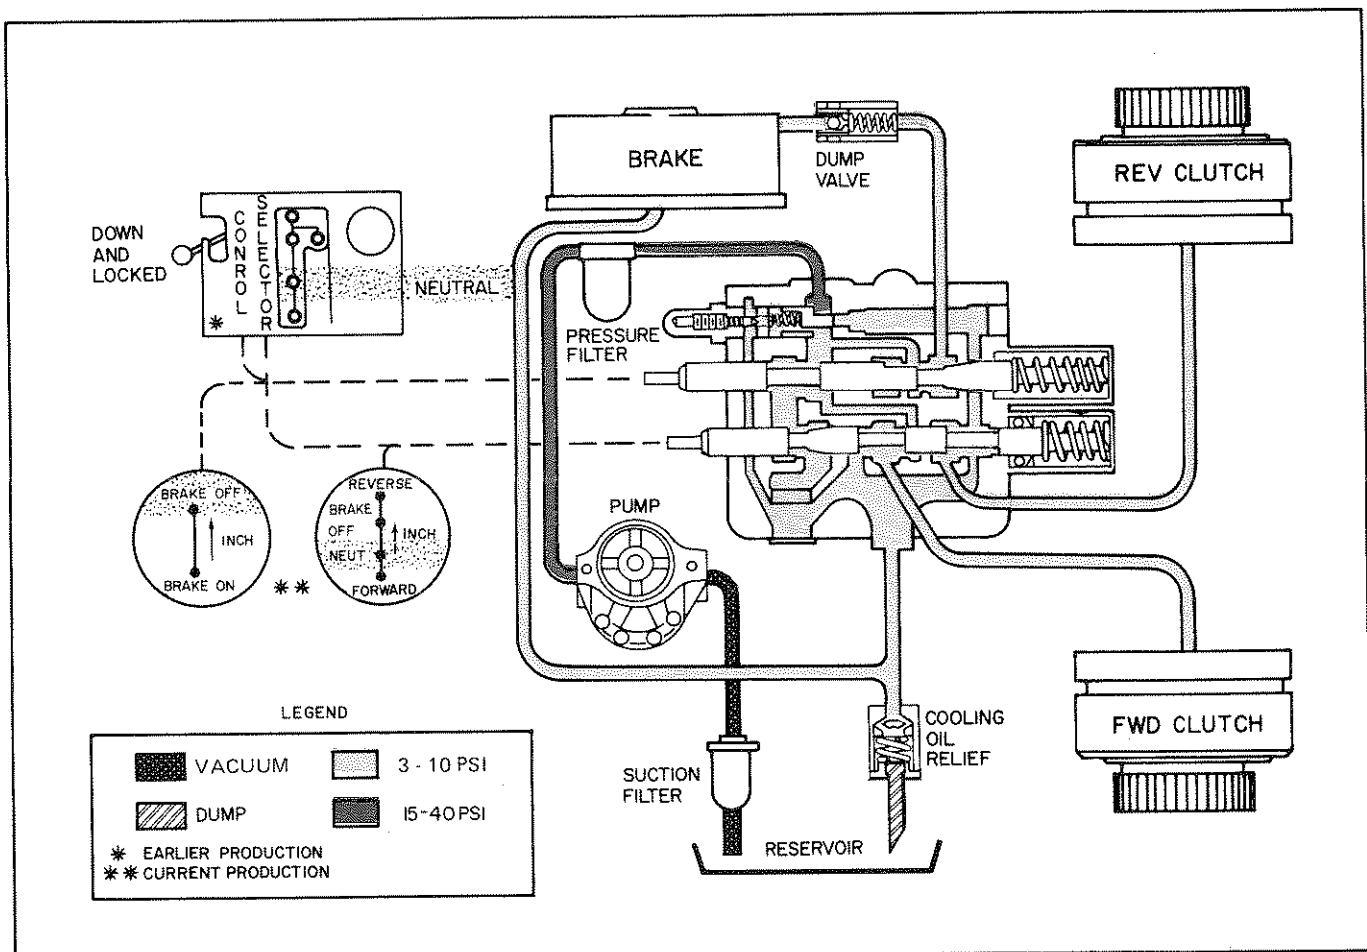

Figure 1-17. Flow Diagram, Neutral, Normal Control
1-39. HYDRAULIC SYSTEM, NEUTRAL, NORMAL CONTROL. (See Figure 1-17.) On earlier production Handling Gear, the system is placed in NEUTRAL, Normal Control by: (1) Moving the Control Lever down and locking it in place and (2) shifting the Selector Lever to the Neutral Position. On the current production Handling Gear this is accomplished by: (1) Locking the Inching Lever to the Brake-Off position and (2) shifting the Selector Lever to the Neutral Position. When the control lever is locked in the down position or the inching lever is locked in the Brake-Off position, the inching spool is pulled to its extreme OUT position. With the Selector Lever in the Neutral Position, the selector spool is in its relaxed position. With the spool in these